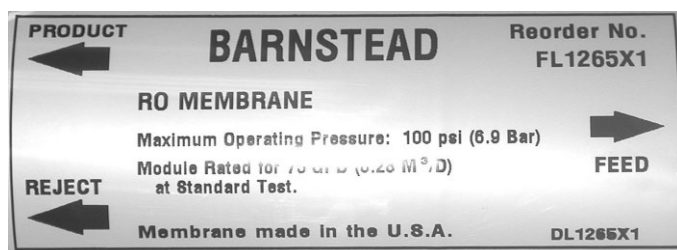
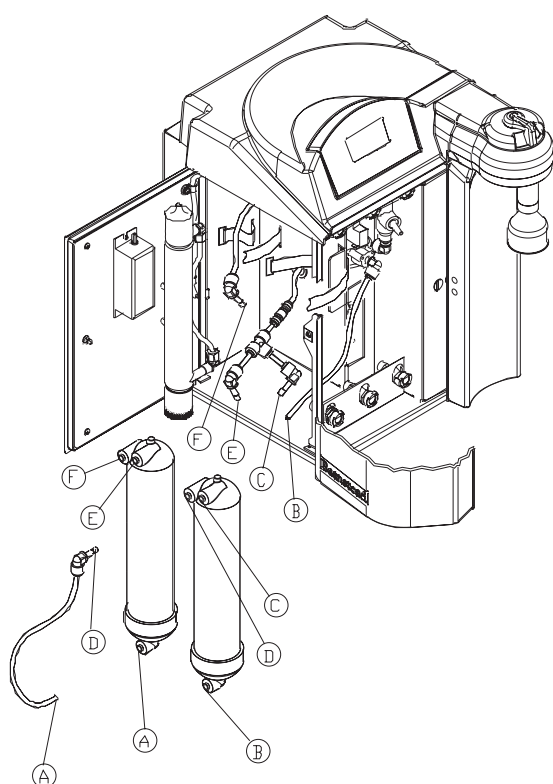

Figure 8: Membrane Housing Label
Figure 9: 24 lph RO Membrane Installation
1. Remove the RO membrane from its packaging. Note the location of the FEED, PRODUCT, and REJECT connections on the membrane. The correct orientation for the installed membrane will be vertical, with the Feed connection on the bottom. See Figure 8.
1. Remove the RO membranes from their packaging. Note the location of the FEED, PRODUCT, and REJECT connections on the membrane. See Figure 9. The correct orientation for the installed membrane will be vertical with the Feed connection on the bottom. See Figure 8.
5. Make FEED 2 (A) connection by first wetting the tube with water and pushing it firmly into the membrane connector. See Figure 9. Using the Velcro® strap secure the membrane into the left most position against the chassis walls. See Figure 9.
6. Make the FEED 1 (B) connection by first wetting the tube end and push firmly into the membrane connector. Using the Velcro® strap secure the membrane into the right most position against the bracket. See Figure 9.
7. Make the PRODUCT (C) and REJECT 1 (D) connections on right most membrane by first wetting the tube stem of the elbow with water and pushing it firmly into the connector. See Figure 9.
8. Make the PRODUCT (E) and REJECT 2 (F) connections on left most membrane by first wetting the tube stem of the elbow with water and pushing it firmly into the connector. See Figure 9.